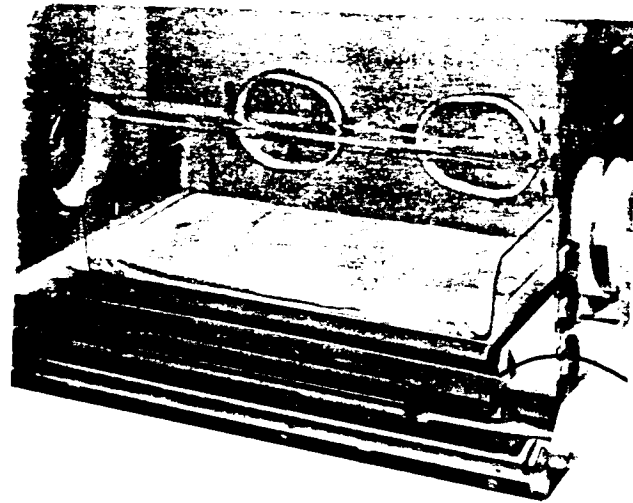

FIGURE 2.5 MATTRESS TRAY AND MATTRESS ON WEIGHING PLATFORM
- WARM WEIGH® Infant Scale, Model I20 (Refer to Figure 2.5)
- D. PLACE THE MATTRESS TRAY AND MATTRESS PROVIDED on the Weighing Platform (Figure 2.5).
- E. INSERT THE CABLE INTO THE HOOD ACCESS GROMMET (Figure 2.5).